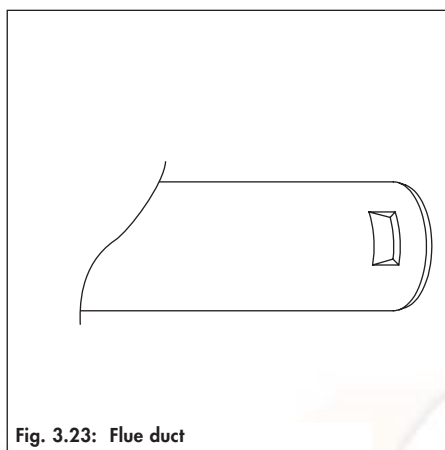

Fig. 3.23: Flue duct
- ☞ Please note: The catch on the top of the terminal must lock firmly into the notch in the flue duct (fig. 3.23).